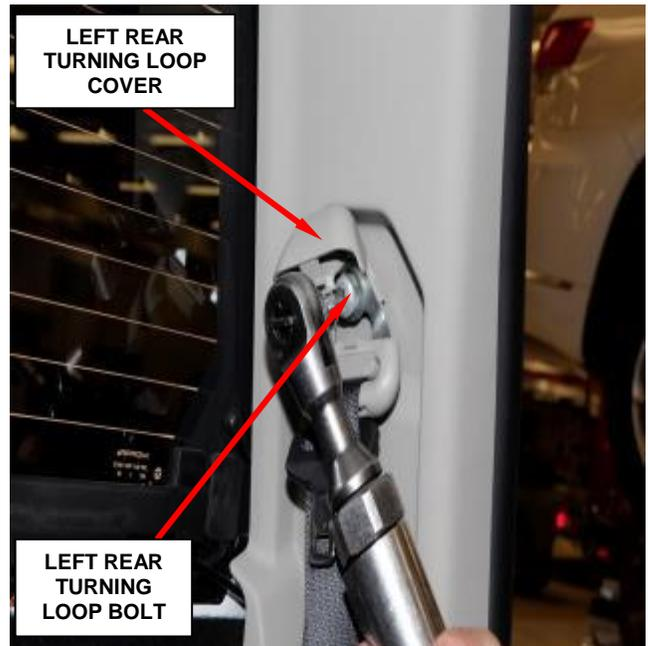

Figure 9 – Left Rear Turning Loop
11. Separate the left rear turning loop cover and remove the left rear turning loop bolt (Figure 9).